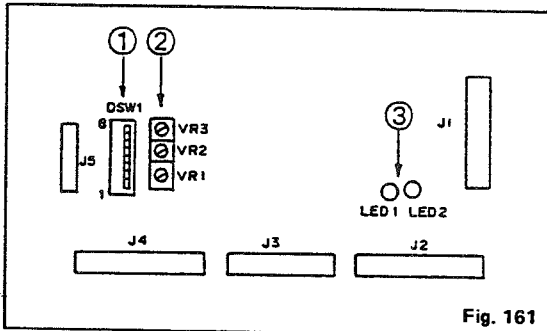

Fig. 161
Adjust the rotating speed of the sewing machine motor by turning the variable resistance knob VR1 ~ VR3 of ② in Fig. 161.